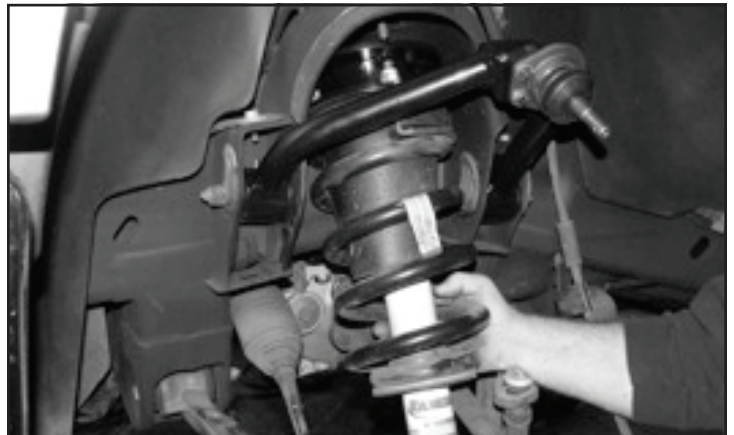

FIGURE 34 - STEP 34
34. Locate the three 7/16" nylock nuts and install the coil over into the upper shock mount. Leave loose at this time. **SEE FIGURE 34**